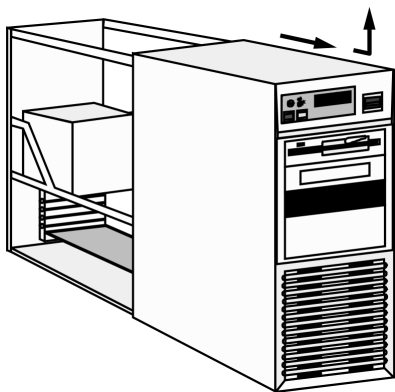

Figure 3: Removing a typical computer's cover
2. Remove your computer's cover, following the directions provided by your computer's manufacturer. Typically, this involves loosening or removing several screws on the back panel of your computer and sliding off the cover. See Figure 3 for an example.
2. If you haven't already removed the cover from your computer, remove it now, following the directions provided by your computer's manufacturer. Typically, this involves loosening or removing several screws on the back panel of your computer and sliding off the cover. See Figure 3 for details.